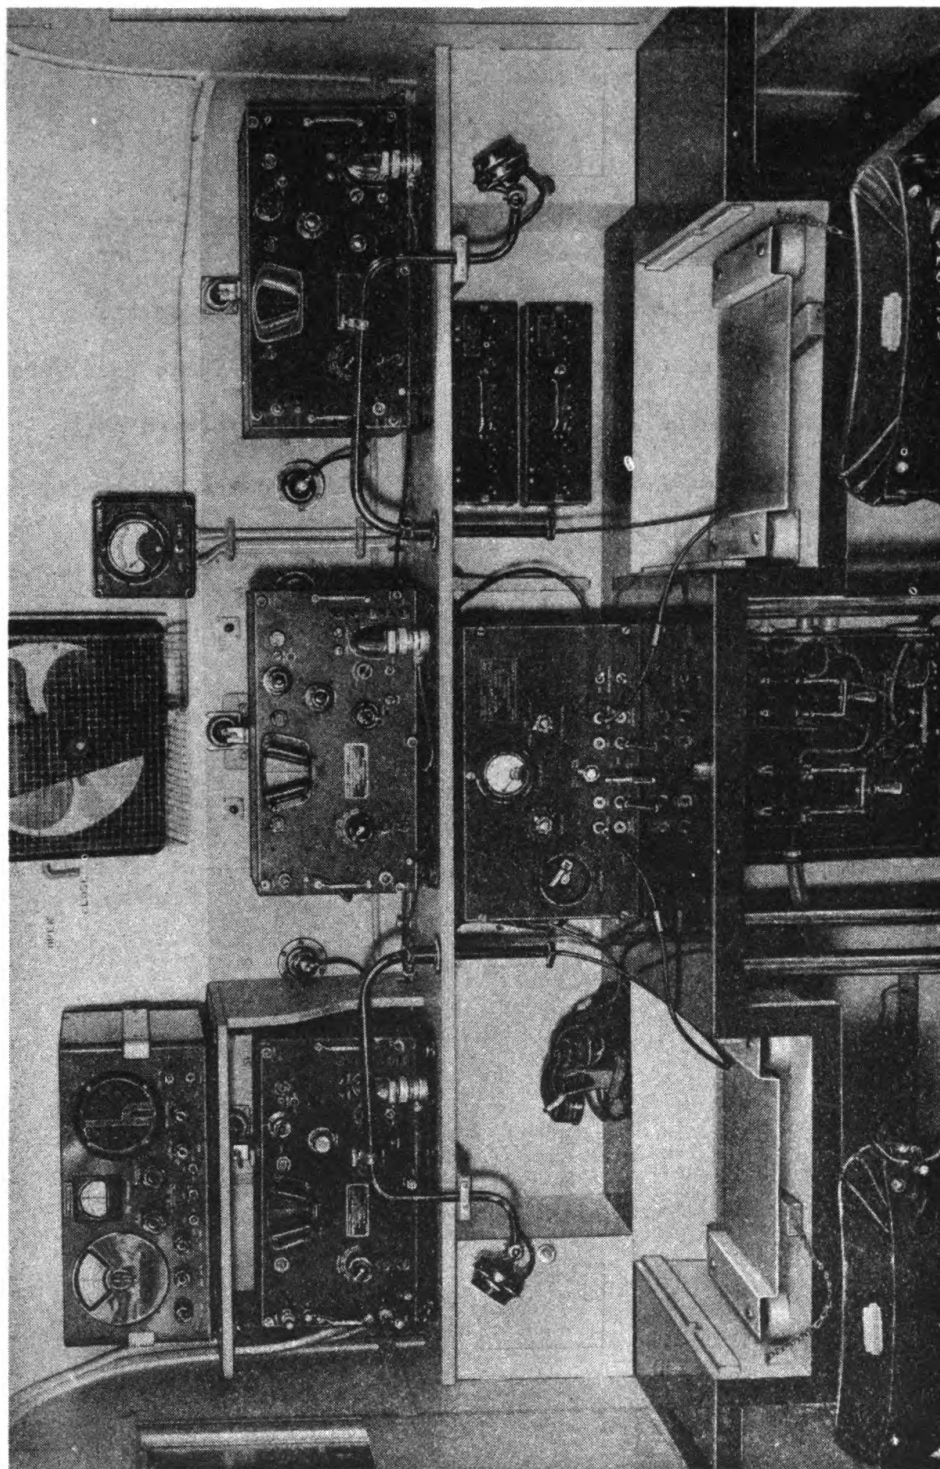

Figure 5. - View of operating table in Trailer K-19-(*). The wells under the microphones accommodate typewriters.
16. RADIO EQUIPMENT IN TRAILER K-19-(*). - a. Radio Receiver BC-342-(*). Three Radio Receivers BC-342-(*) are installed on the shelf in the forward part of the trailer. (See Fig. 5) These receivers obtain their power from the a-c outlets situated in the forward part of the trailer. Full information concerning Radio Receiver BC-342-(*) is contained in TM 11-850.